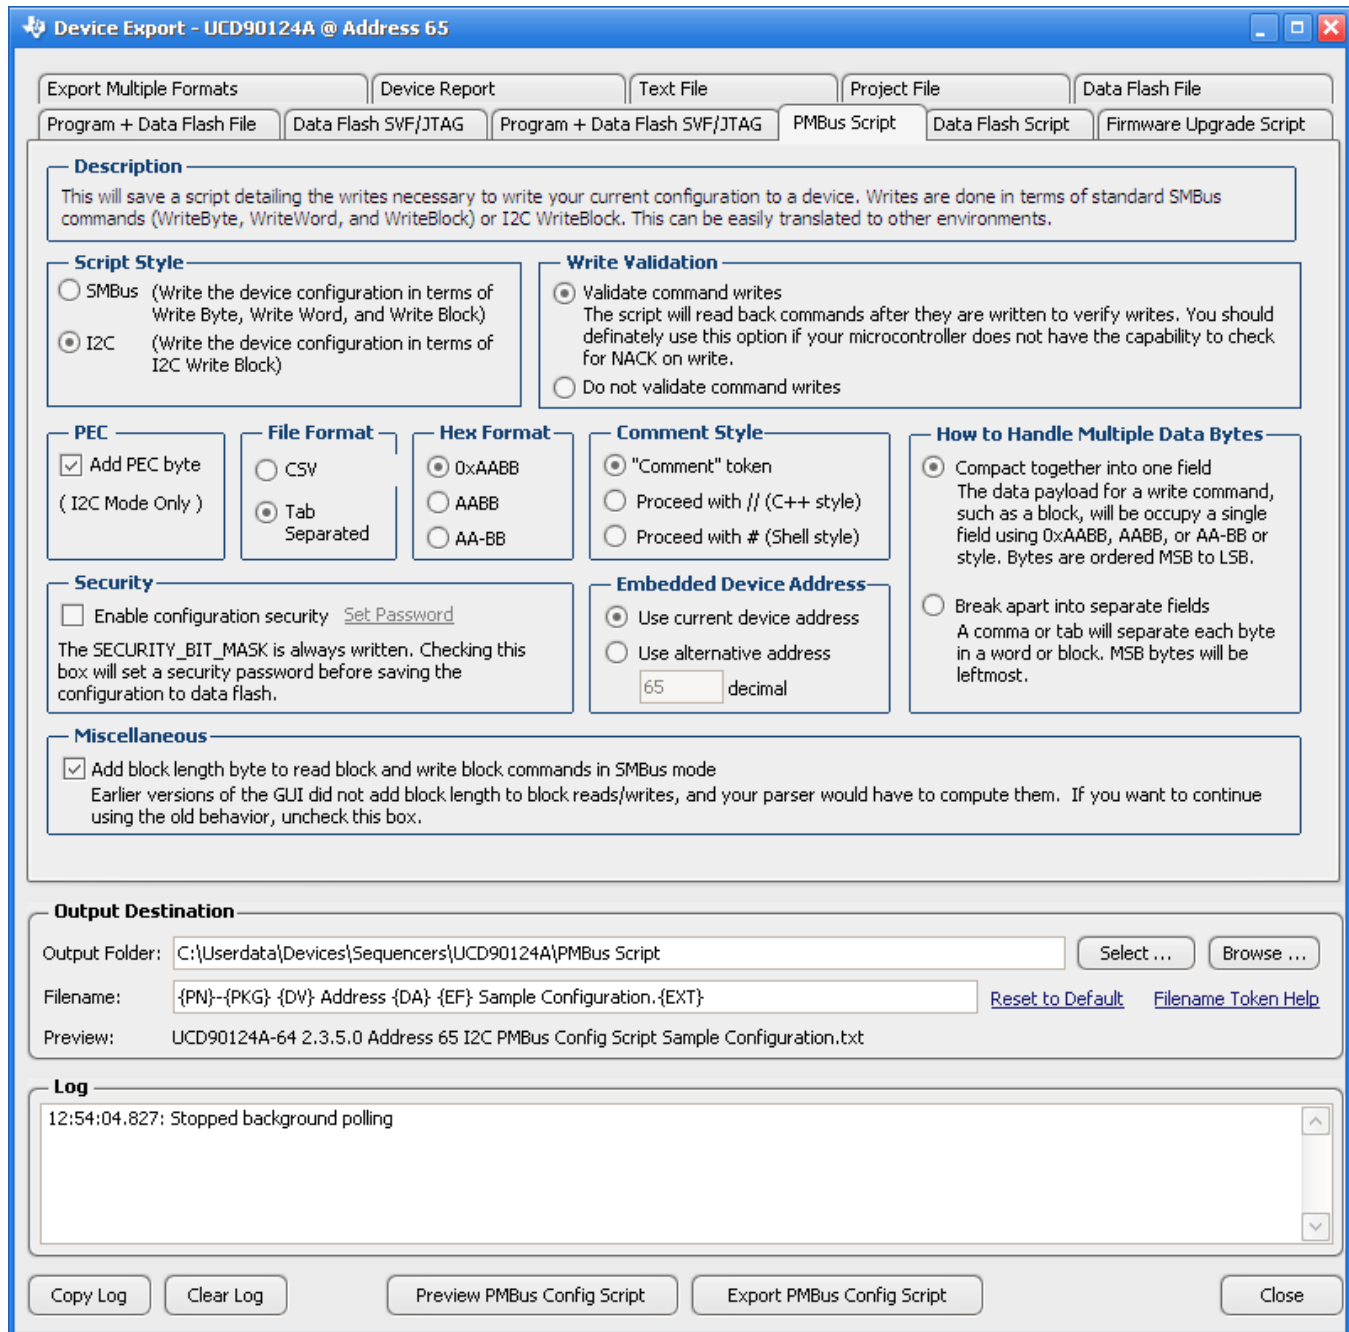

Figure 35. Fusion GUI PMBus Configuration Script Export Tool
2. The *Fusion GUI* (Figure 35) can create a PMBus or I²C command script file that can be used by the I²C